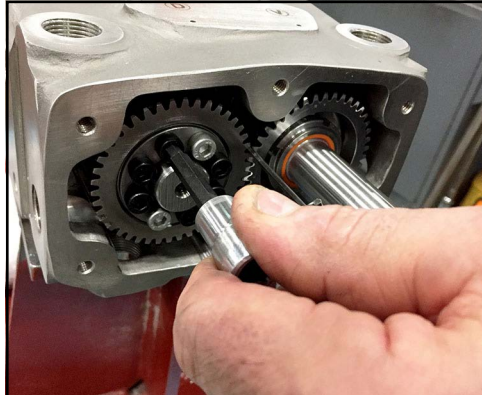

Figure 237 - Hand-tighten locking assembly bolts
13. Hand-tighten the locking assembly bolts in an alternating pattern as shown in Figure 237.